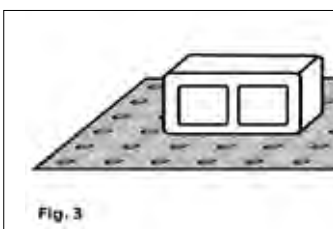

Fig. 3
6. OPTIONAL: In drier or wetter concrete mixes a weight like a sand bag or block may be laid on top of the installed tile to hold the tile at the desired depth and prevent it from "floating" during the curing process. **(Figure 3)**